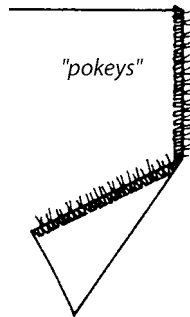

Figure 16.
- More looper thread is needed for wider stitches. You may need to loosen the looper tensions to avoid “pokeys,” which are whisker-like fabric threads protruding from the stitching (Figure 16).